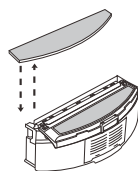
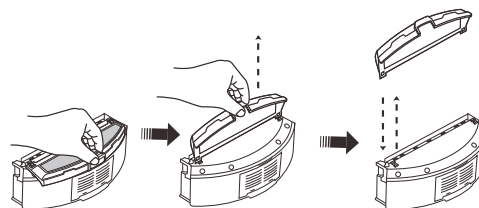

Figure 6
Figure 7
5. Reverse the dustbin, tear out the mop, release the trailing bar and then unplug the right and left fasteners on the bottom of the dustbin (Refer Fig 6 and Fig 7). All parts should be assembled as before disassembly.